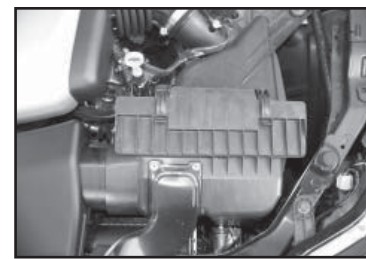

Fig. 7
8. Slide the lid back into the air box. Ensure the lid is seated all the way down and re-clip the metal clips. (Fig 7)